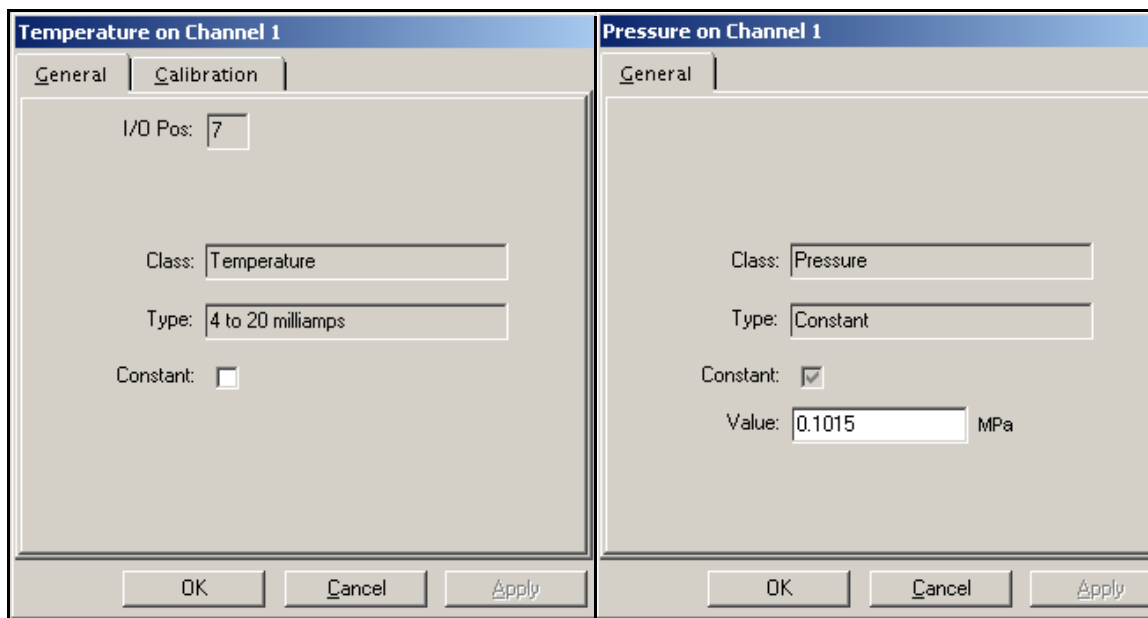

Figure 59: PanaView Temperature and Pressure (two separate displays)
4. Double click on the Temp or Pres option and the Temperature or Pressure display appears (see *Figure 59* below).